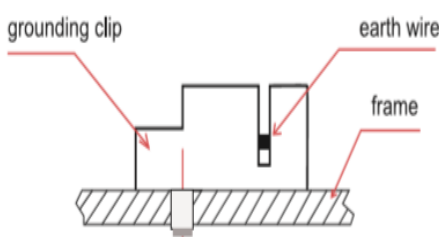

figure 2
- As shown in the figure2, the grounding clip assembly consists of a slider, base, and self-captivating thread-cutting screw or 8-32 screw and hex nut. The grounding clip accepts solid uninsulated copper wire sizes 10 or 12 AWG.